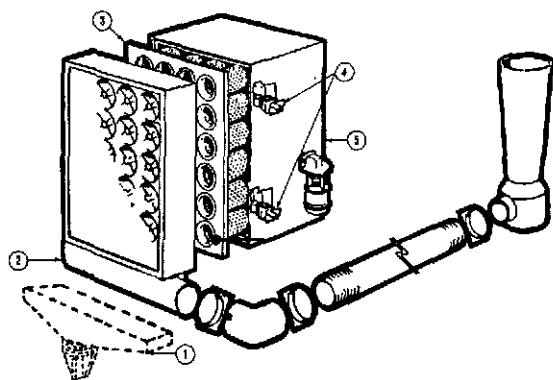

Fig. 5-9, N21026. Air cleaner - cartridge type (two stage)
4. Loosen wing nuts (4, Fig. 5-9) on air cleaner housing (5) to remove pre-cleaner panel with dust bin (1). To remove pre-cleaner panel equipped with exhaust aspirator (2), loosen "U" bolt clamp securing pre-cleaner to aspirator tubing.
5. To remove dirty Pamic cartridge (3), insert fingers in cartridge opening using a "bowling-ball grip." Loosen all four corners of cartridge, one at a time, by pulling straight out. With larger cartridge, it may be necessary to break seal along edges of cartridge. After seal has been broken, pull the cartridge straight out and slightly up so cartridge will clear sealing frame and edges of air cleaner housing.
13. To install a new cartridge, hold cartridge (3, Fig. 5-9) in same manner as when removing from housing (5) always inspect inside of air cleaner housing keeping it free of all foreign material. Insert clean cartridge into housing; avoid hitting cartridge tubes against sealing flange on edges of air cleaner housing.
15. Replace pre-cleaner panel (2) and tighten wing nuts (4) by hand, for final tightness turn 1-1/2 to 2 turns with a small adjustable wrench. On pre-cleaner with exhaust aspirator, assemble aspirator tube to pre-cleaner panel and tighten "U" bolt.